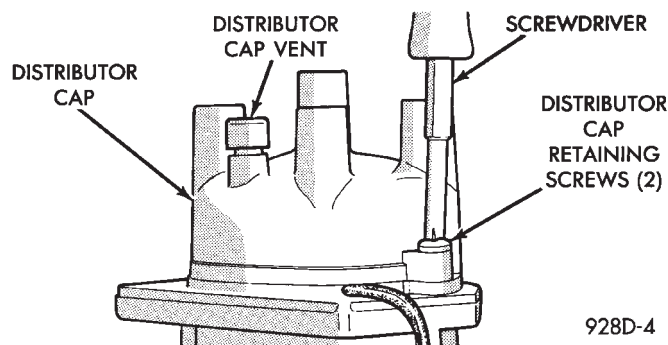

Fig. 16 Distributor Cap Retaining Screws—2.5L Engine
(4) Loosen distributor cap retaining screws (Fig. 16).